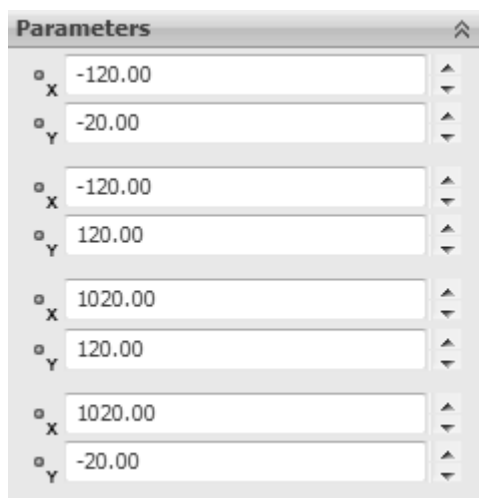

Figure 2.4 Dimensions of second larger rectangle
4. Repeat steps 2 and 3 but create a larger rectangle outside of the first rectangle. Dimensions are shown in Figure 2.4.